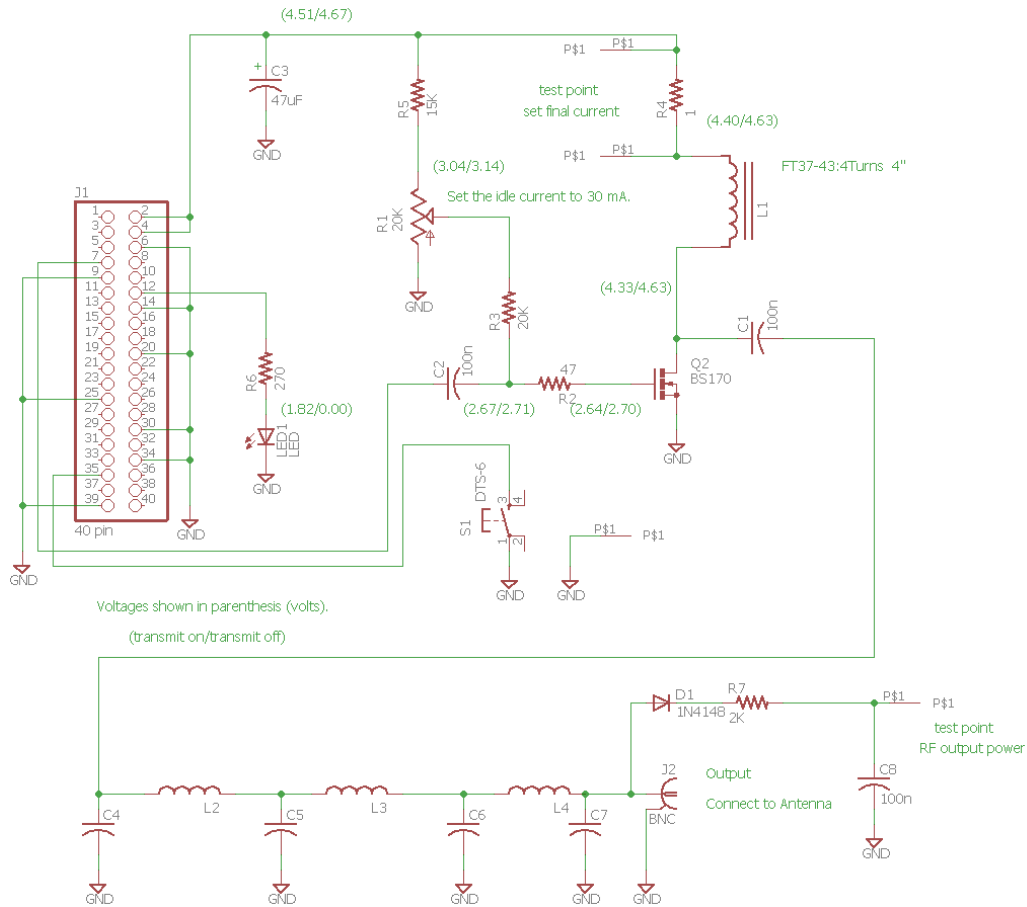

Figure 10: VW Schematic
The VW schematic is shown in Figure 10: VW Schematic.
10. Measure idle current with a VOM. This is the current across R4 (1 ohm resistor). Connect positive probe to the *Vcc* test point and the negative probe to the *Current* test point (see Figure 10) This should be ~20 mV when not transmitting and ~70-80 mV when transmitting, corresponding to ~20 mA and ~70-80 mA.
15. Using the scope, measure the voltage coming out of the Pi. This is between pin 7 and GND (see Figure 2). Of course, the probe goes to pin 7. When transmitting, you should see a square wave ~3.5 Vp-p. 4. If you've got a signal coming out of the Pi (pin 7 measurement), then then next thing to check is the output before the low pass filter (left side of L3, see Figure 10). This should be a square wave ~3 Vp-p. If all else fails, send me an email (Bruce Raymond, nd8i@tapr.org). I'm happy to help.